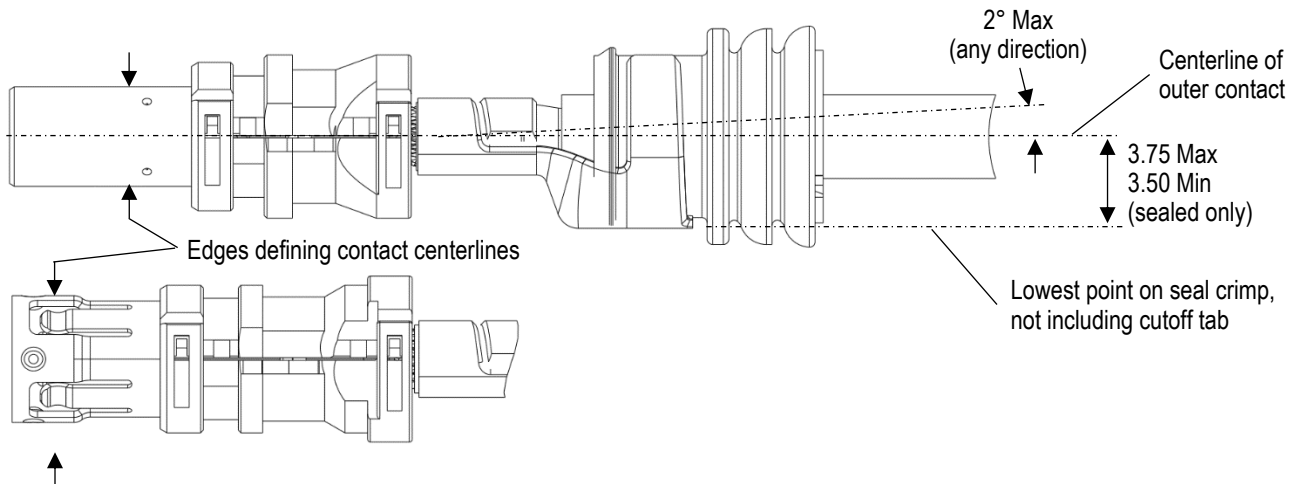

Figure 8
1. The bend of the male or female subassembly must not exceed the angle provided in Figure 8.
2. The offset between braid crimp and seal crimp must not exceed the limits provided in Figure 8 (sealed connectors only).